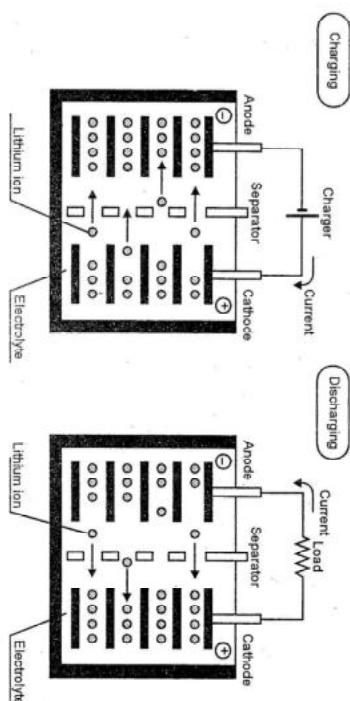

Fig. 4.13.1
- The operating principle of a lithium ion rechargeable battery is shown in the Fig. 4.13.1. When the battery is charged, lithium ions in the cathode material move in between the layers of the anode, which is of carbon material, thus charging the battery.